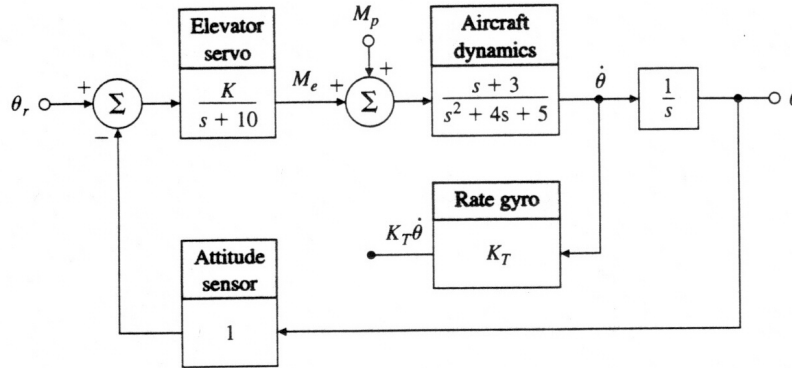

Figure 5.68: Golden Nugget Airlines Autopilot
39. Golden Nugget Airlines has opened a free bar in the tail of their airplanes in an attempt to lure customers. In order to automatically adjust for the sudden weight shift due to passengers rushing to the bar when it first opens, the airline is mechanizing a pitch-attitude auto pilot. Figure 5.68 shows the block diagram of the proposed arrangement. We will model the passenger moment as a step disturbance $M_p(s) = M_0/s$, with a maximum expected value for M_0 of 0.6.